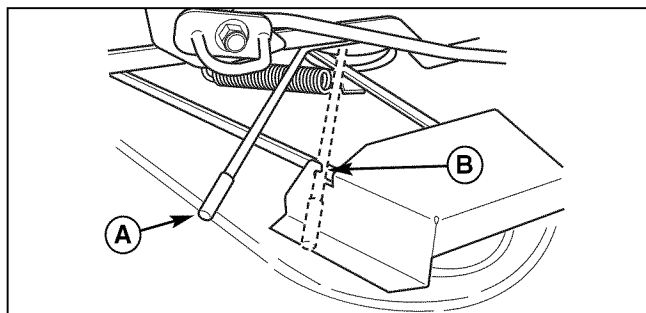
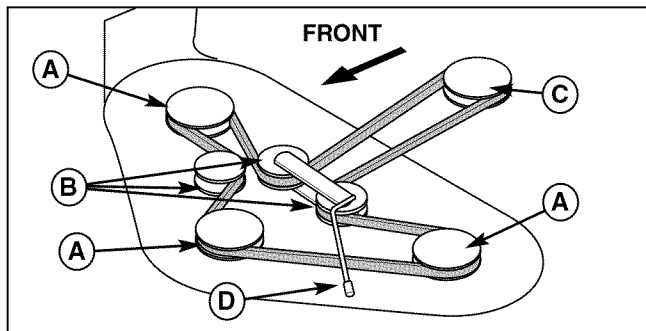

Figure 45. Release Belt Tension
Figure 46. Mower Belt Routing
2. Raise the mower deck to transport position. Pull the lever (A, Figure 45) towards the rear of the machine to release tension on the mower belt. Secure the lever in the guard notch (B).
3. Remove the old drive belt and install the new one as shown in Figure 46. Note that the back of the drive belt must ride against the back-side idler pulleys (B). Use the belt tension lever (A, Figure 45) to release tension on the idler pulley for installation.